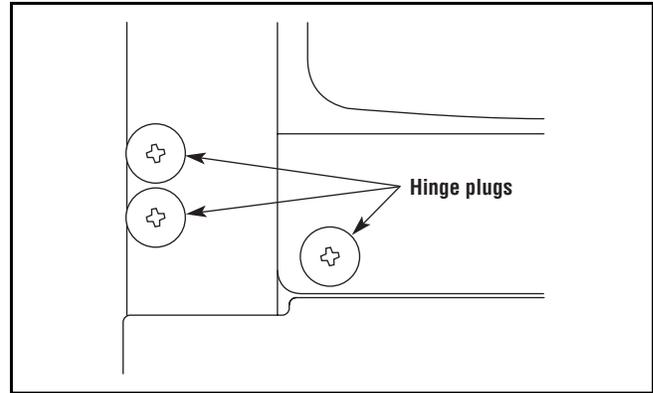

Figure 8
2. Remove metal hinge plugs (3 each, top and bottom) from new hinge location. Do not discard (**Figure 8**).